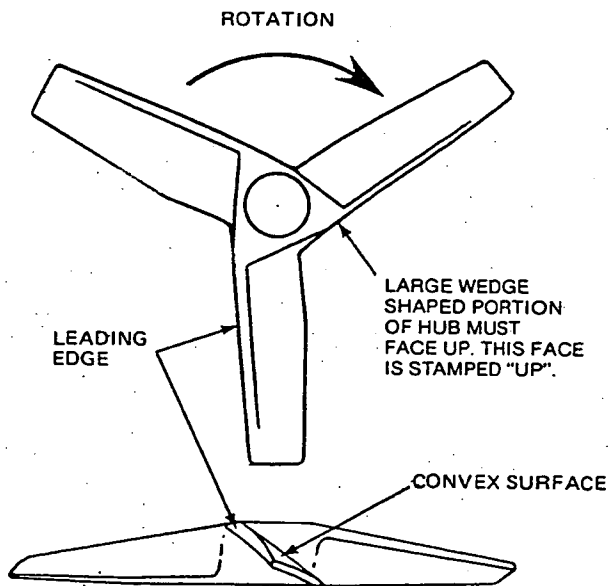

FIGURE 2. IMPELLER ORIENTATION
- 4-1. Position the impeller(s) on the mixer shaft. Refer to the specification sheet for recommended dual impeller spacing. The larger wedge shaped portion of the hub body must face up towards the mixer. The top of the hub is stamped "UP". Refer to Figure 2 for general orientation reference.